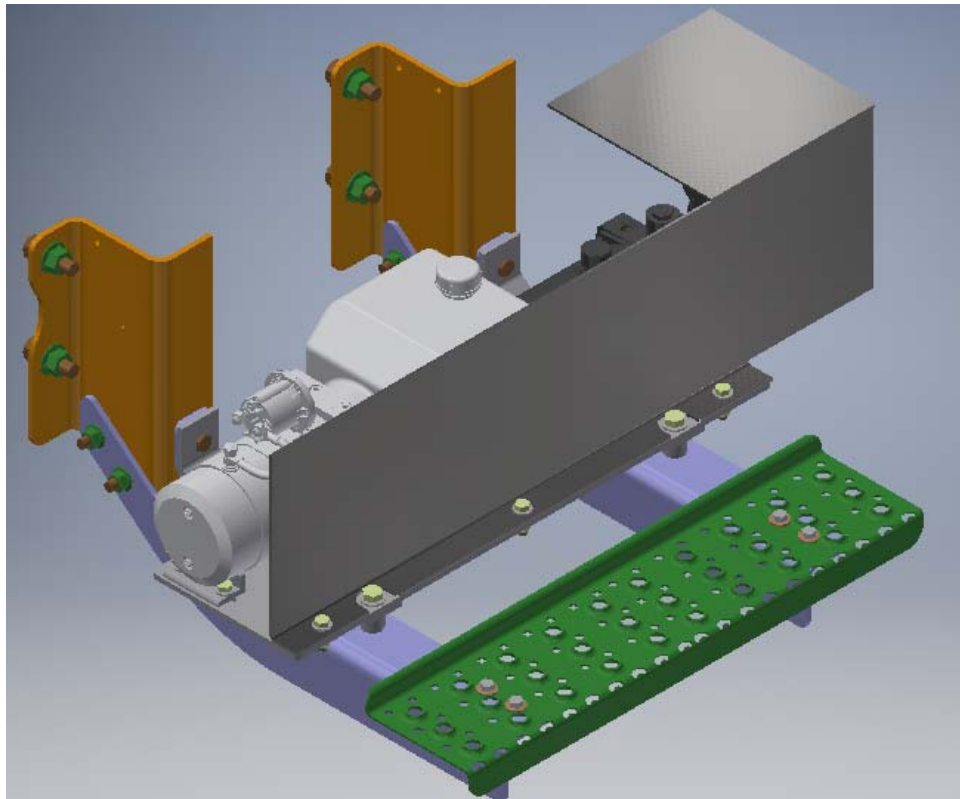

Figure 9: Pump Protection Box Installed
23. With pump installation finalized, install the Pump Protection Box (R-20484) using the remaining 3/8" hardware found in the kit. (Figure 9)